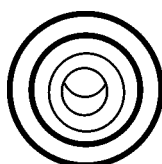
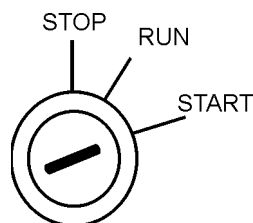
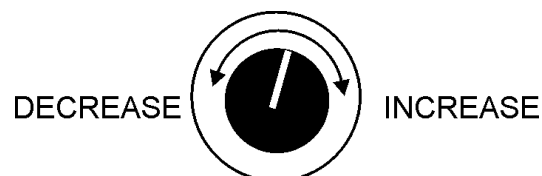

Figure 45. Pre-Heat Indicator Lamp
Figure 46. Ignition Switch (Start Position)
Figure 49. Voltage Adjust Control Knob
5. In warm weather conditions, skip to step 6. Preheat the engine **glow plugs** by turning the ignition key (Figure 49) to the **RUN** position. When the preheat lamp (Figure 45) illuminates, proceed to step 6.
6. Turn the ignition key to the **START** position (Figure 46). Once the engine starts, release the ignition key and allow it to return to the **RUN** position (Figure 45). If the engine fails to start after 10 seconds, wait approximately 30 seconds and repeat steps 5-6.
10. Use the voltage adjustment control knob (Figure 49) to increase or decrease the desired voltage.